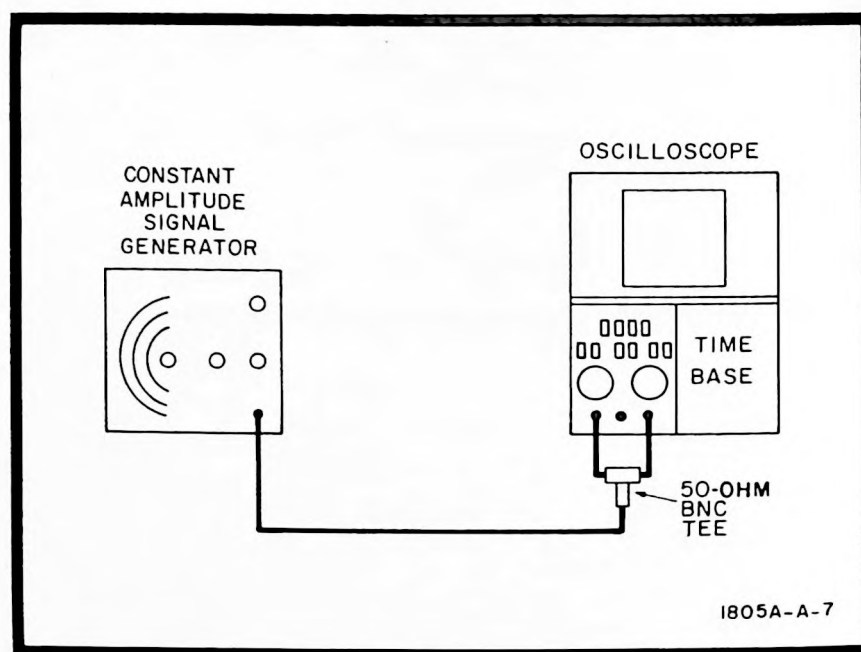

Figure 5-6. CMR Test Setup
a. Connect equipment as shown in figure 5-6.